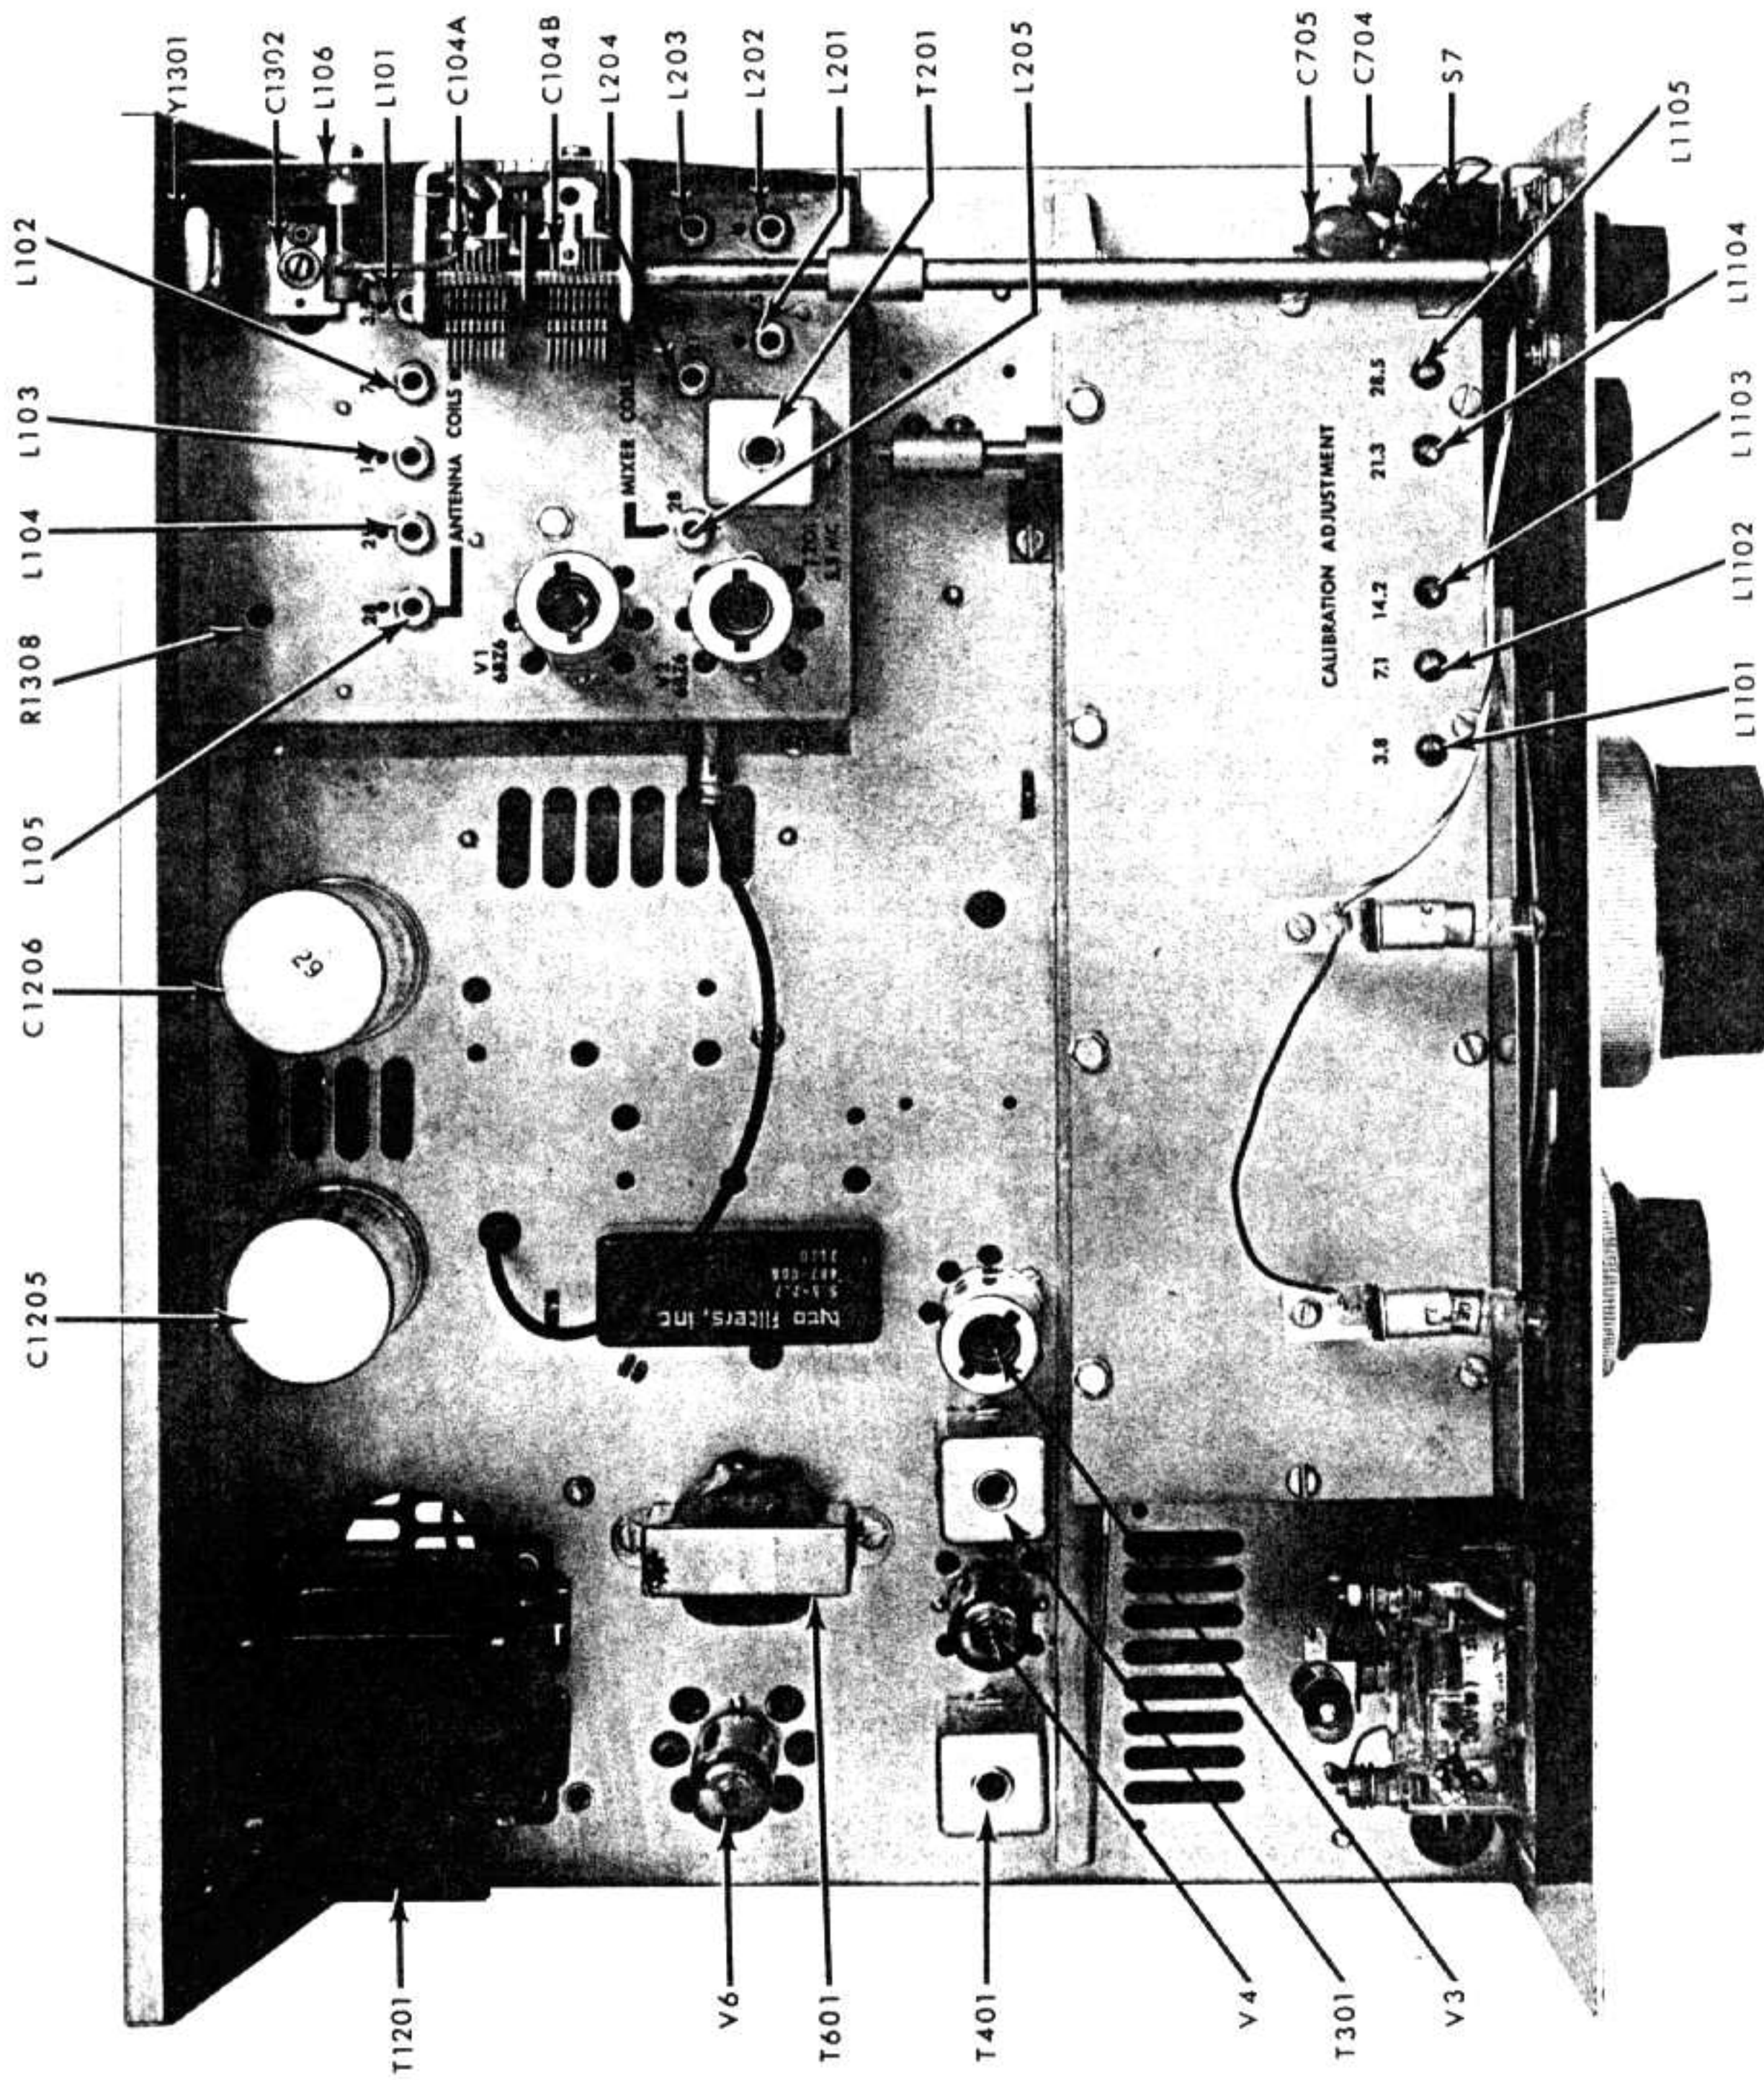

FIGURE 7. TOP VIEW OF 600-R
12. With a 50 ohm dummy load connected to the antenna input jack, or the receiving antenna connected to the jack, adjust T401, T301 and T201 for maximum noise (see Figure 7).
17. Using the chart below, adjust the antenna and Mixer coils for maximum signal. When properly adjusted, the receiver S-Meter should read approximately S7 to S9 with 10 microvolts input. When the input level is reduced to approximately 1/10 microvolt, the signal should still be audible (see Figure 7).
an external receiver that will tune to WWV. To adjust the calibrator using the 600-R/600-T/Swan Transceiver combination, tune in WWV using the procedures described under "WWV RECEPTION WITH 600-R/600-T/Swan Transceiver Combinations" in the OPERATION section. These same tuning procedures apply when using the Model 508 with the 600-R. When the Model 330 General Coverage Tuner is used, tune in WWV direct. After WWV has been tuned in, turn on the 100 kc calibrator, and if the calibrator can be heard in the speaker, adjust C1302 (see Figure 7) to zero-beat with WWV. If an external receiver is used, locate the R.F. Amplifier tube socket, V1. Wrap one end of an insulated wire lead loosely around pin 1. Connect the other end to the antenna terminal of the external receiver. Tune external receiver to zero-beat WWV. Turn on 100 kc calibrator, and by listening to it on the external receiver, adjust C1302 to zero-beat with WWV.
The calibrator circuit board has a trimmer type potentiometer which is used to adjust the multivibrator circuit so it divides the 100 KC calibrator output by a factor of 4, thus providing calibration markers every 25 kc. If markers are received every 20 kc or every 33-1/3 kc, adjustment is required. A small adjusting hole will be found on top of the R.F. tuner, directly back of V1, the R.F. Amplifier tube. Use a small insulated screwdriver, and carefully turn the trimmer control, R1308, until calibration markers are received every 25 kc (see Figure 7).
When dial calibration changes beyond the adjusting range indicated on the DIAL SET dial, calibration may be restored by carefully adjusting the trimmer for that range (see Figure 7).
9. Adjust L106 for minimum S-Meter reading (see Figure 7).